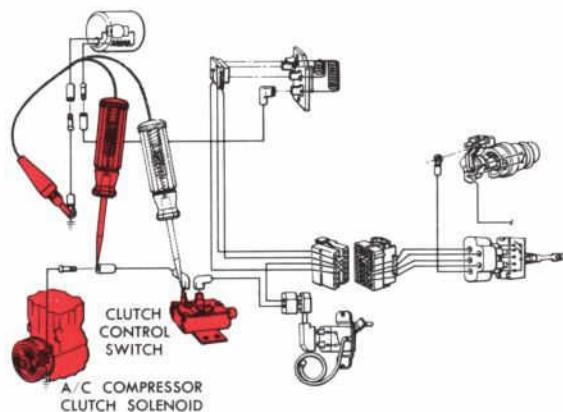

Figure 20—Testing Clutch Lead Continuity
1. With one end of the test light connected to a good ground, touch the probe to the lead between the clutch control switch and the clutch solenoid (Fig. 20). If the light doesn't burn, move the probe to the switch connection. If it burns now, the lead wire requires repair or replacement.